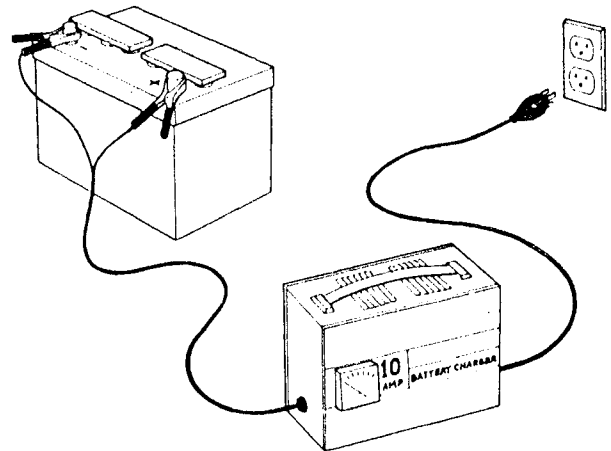

Figure 42
2. Connect battery charger cables to battery posts (Fig. 42). Make sure that red, positive charger connector is attached to positive (+) — largest diameter — battery post (Fig. 42). The black, negative charger connector must be attached to negative (-) — smallest diameter — battery post (Fig. 42).
3. Plug power cord of charger into a grounded 110-120 volt outlet so battery can be charged (Fig. 42).
charger from wall outlet (Fig. 42). Next, disconnect charger from battery (Fig. 42).